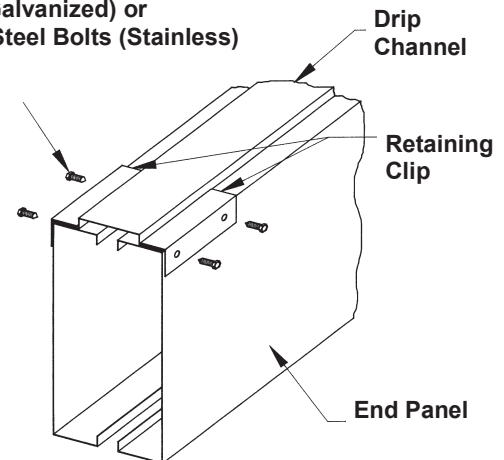

Figure 5 - Drip Channel Installation.
8. Remove the 1/4" bolts which hold the drip channel retaining clips to the end panel. Place the drip channel over the adjoining pan section flanges. Turn around the retaining clips and re-install them using the same hardware. (See Figure 5)